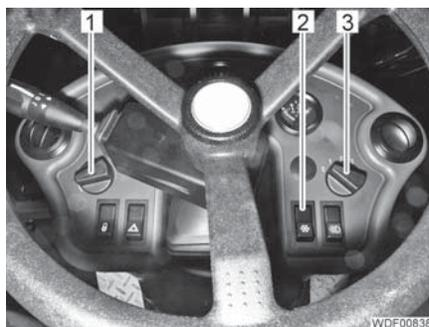

Fig. 44 Heater
- Set the temperature controller (Fig. 44,1) to the lowest temperature.
- Set the fan switch (Fig. 44,3) to "I". The fan blows air into the cab.
- Switch on the air-conditioning unit using the switch (Fig. 44,2). The indicator lamp in the switch comes on.
- Set the temperature controller (Fig. 44,1) to the lowest temperature. The fan blows cool air into the cab.